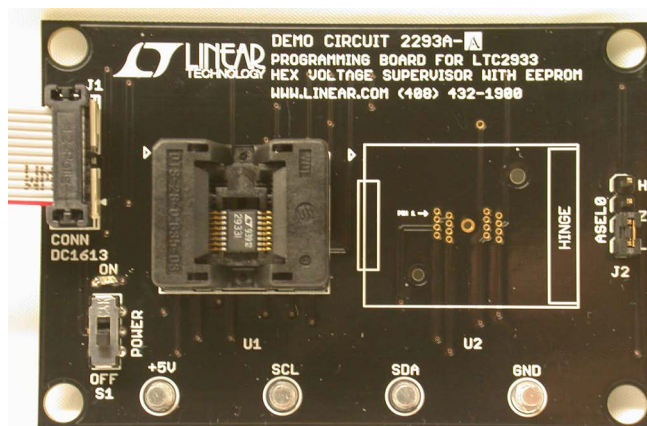

Figure 5. DC2293A-A and IC Installed
3. If using DC2293A-A, open the pinch contacts of the socket by pressing down and holding the top of the spring loaded socket frame. Place the IC inside the socket with pin 1 located in the upper left corner. Slowly release the top of socket frame, allowing contacts to pinch together and grip IC leads. See Figure 5.